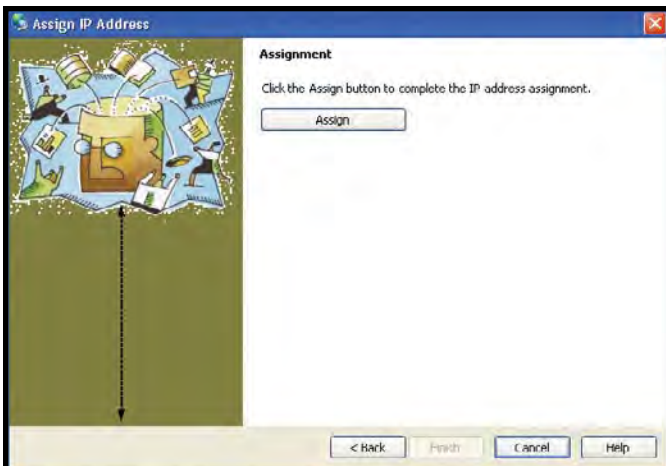

Figure 69. Assign IP Address, Assignment window
- IX. Click "Assign" (see Figure 69). DeviceInstaller will then configure the Ethernet Board. Click "Finish" when complete. If successful, skip to the "PING DEVICE" section of this procedure.